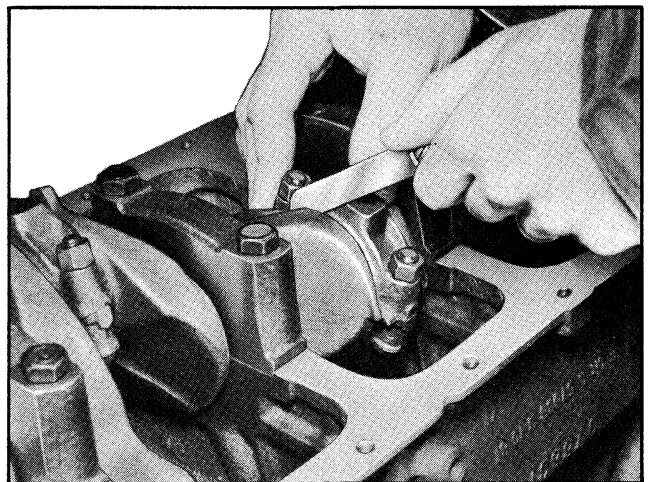

Fig. 6-62 Checking Connecting Rod Side Clearance
5. Check connecting rod end clearance between connecting rod cap and side of crankpin (Fig. 6-62). Clearance should be .008" - .014". If clearance is more than .014", replace connecting rod.